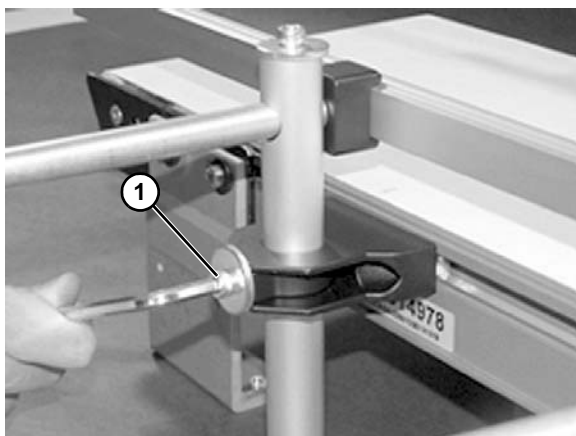

Figure 84
7. Adjust rail height with lower screw (**Figure 84, item 1**).